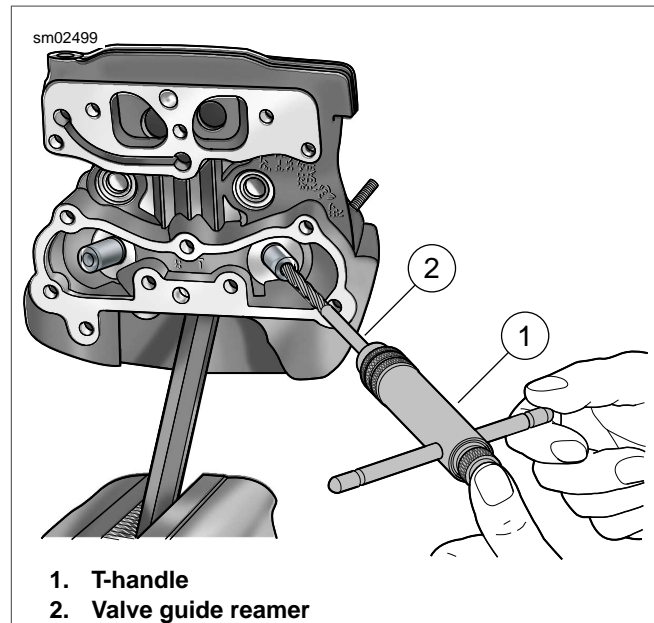

Figure 3-86. Reaming Valve Guide Bore
5. See Figure 3-86. Obtain the VALVE GUIDE REAMER (Part No. B-45523), REAMER T-HANDLE (Part No. HD-39847) and REAMER LUBRICANT (Part No. HD-39964).
- a. Install T-handle (1) on reamer (2).